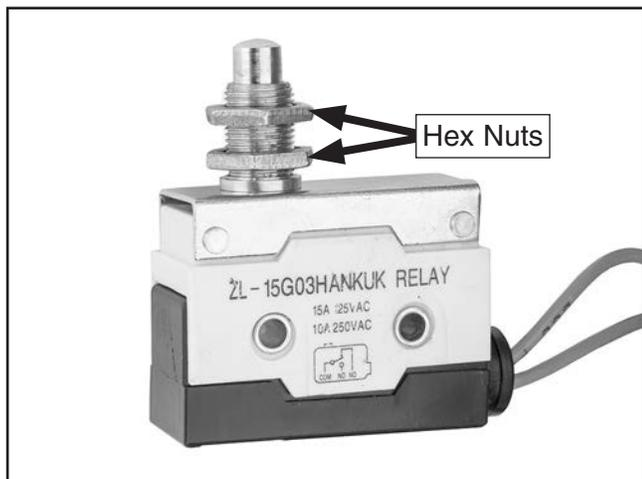

Figure 62. Micro-switch hex nut locations (removed from control panel for clarity).
7. Adjust (2) hex nuts on micro-switch shown in **Figure 62** until micro-switch clicks when bending leaf is lowered.